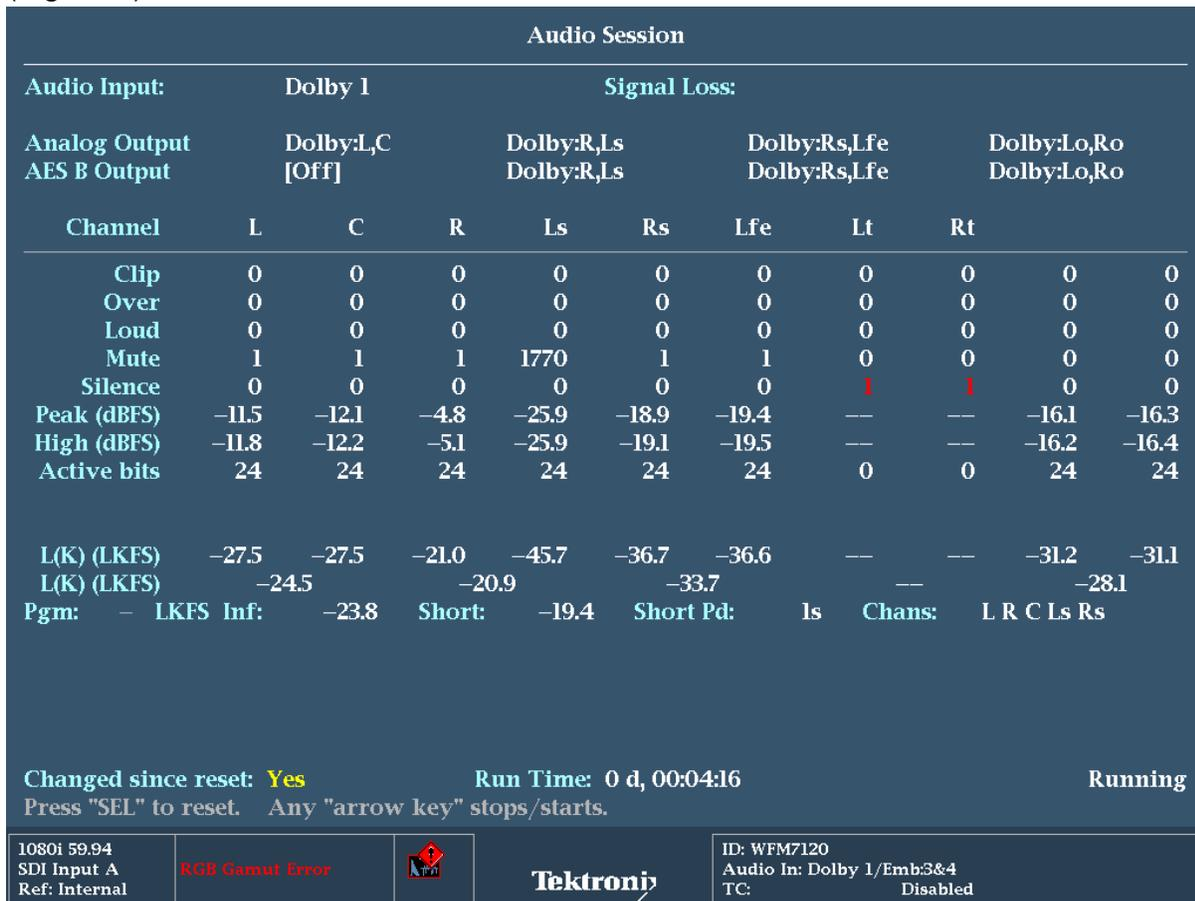

Figure 5. Audio Session Display
5. Enter the sub menu by pressing **SEL** and navigate to the **Audio Session** selection. (Figure 5)
5. Enter the sub menu by pressing **SEL** and navigate to the **Loudness Session** selection. (Figure 5).